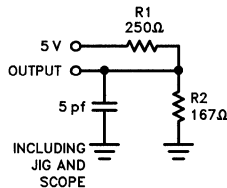

Figure 1b
6. t_{HZCS(E)} is tested with load shown in Figure 1b. Transition is measured at steady state High level + 500 mV or steady state Low level + 500 mV on the output from the 1.5 level on the input.